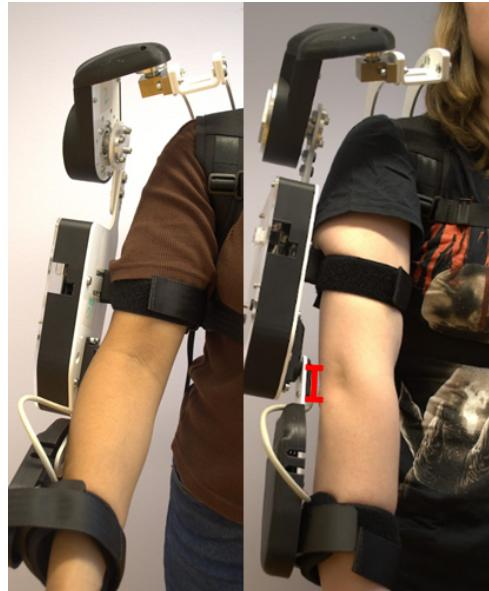

Figure 3: Correct alignment of elbow joint (left) and incorrect alignment (right), misalignment marked in red.
3. Tighten the straps around the elbow and the wrist and check alignment with the elbow joint according to Figure 3.
2. To align the elbow, loosen the bolts on the inside of the shoulder joint illustrated in Figure 5. Use the 3.0 Allen key to do this. Slide the arm such that the elbow joint of the exoskeleton and the user is aligned such as in Figure 3. Tighten the bolts.